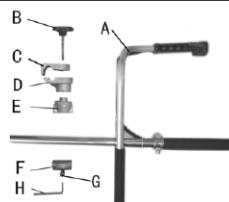

Fig. 1
1. To install handle onto unit, you will need the following components from your user kit: U1-typehandle(A), fixing holder(D & E), clamp(C & F), screws(B & G)and screw driver. (Fig.1)